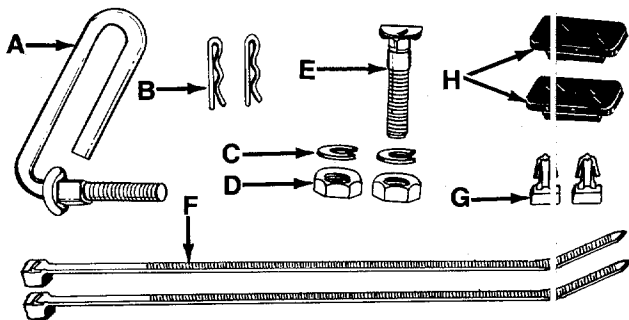
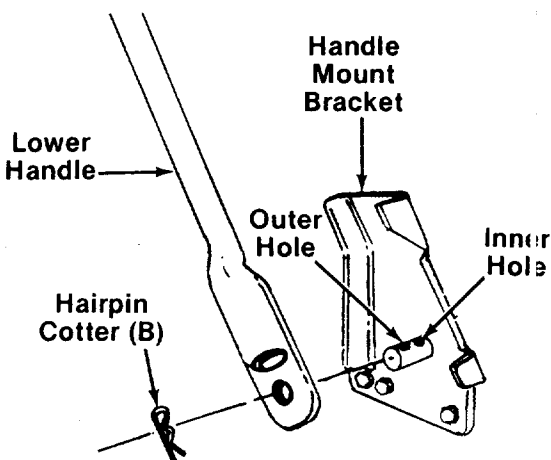

FIGURE 1.
FIGURE 2.
**Contents of hardware pack: (See figure 1)**
- A (1) Rope Guide Bolt
- B (2) Hairpin Cotters
- C (2) Lock Washers 5/16" I.D.
- D (2) Hex Nuts 5/16-18 Thread
- E (1) Curved Head Carriage Bolt
- F (2) Cable Ties
- G (2) Cable Anchors
- H (2) Plastic Plugs
- I (1) Cable Clamp (Not Shown)
3. Attach the lower handle by placing the bottom holes in the lower handle over the weld pins on the handle mount brackets. Make certain the instruction label on the lower handle can be read from the operating position. Secure with hairpin cotters (B) in inner holes on weld pins. See figure 2.